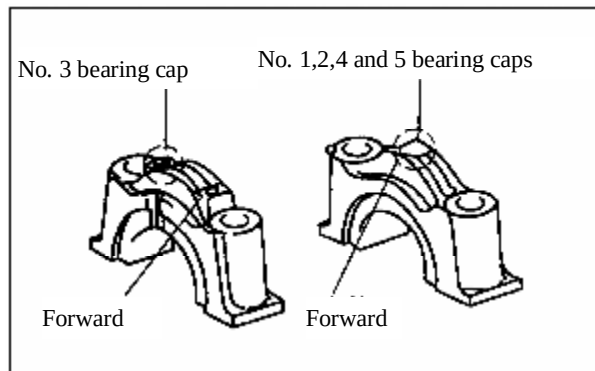

Figure 3-22 Marks on Main Bearing Cap
3.2.3 The main bearing caps are not interchangeable, and their directions (front and rear) must be correct. In order to prevent misplacement or adverse installation, the main bearing cap is marked with sequence number and cast a “forward” arrow (see Figure 3-22).